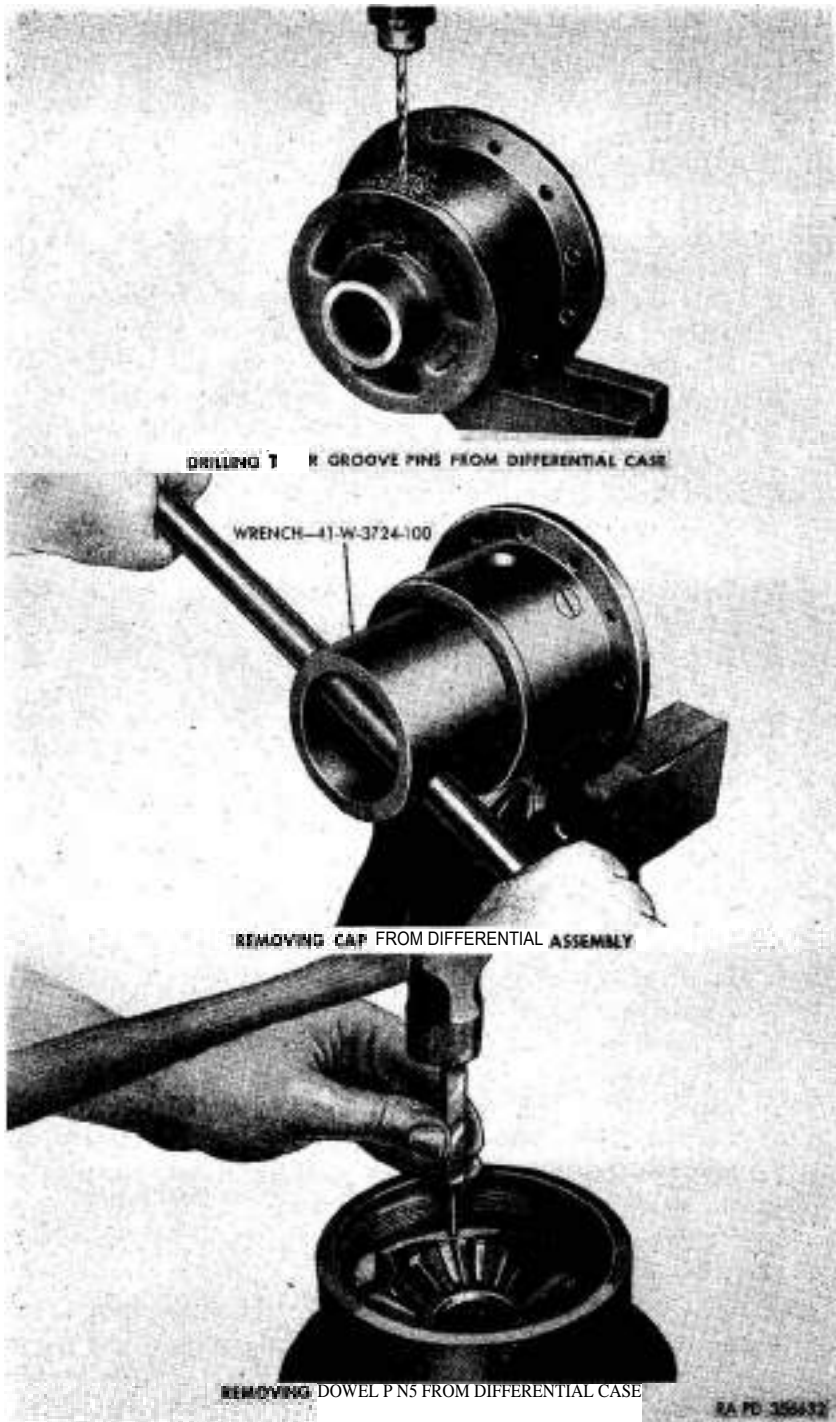
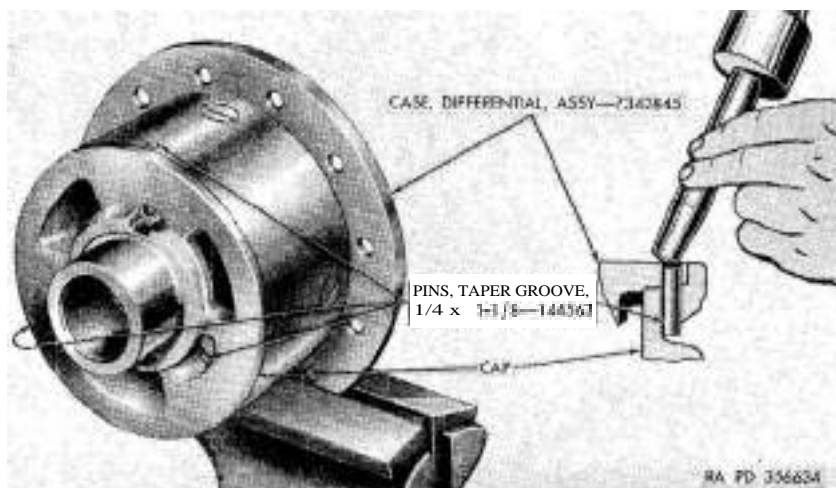

Figure 91. Disassembly of differential case.
Figure 92. Peening of pins in differential case.
- (1) Drive the pins below surface of differential case to facilitate center punching and drilling.
- (2) Accurately center punch each taper groove pin (fig. 91) and drill pins with a No. 1 (0.228-inch) drill. Remove shell of pins from case with a punch.
- (3) Heat differential case immediately below cap with an acetylene torch flame, moving the flame around the case until the metal becomes just hot enough to cause solder to flow as it is rubbed over the heated surface of the case. This expands the case, permitting removal of the cap without damage to the differential case or cap.
- (4) When case is properly heated, loosen cap with blunt drift and hammer and quickly remove cap with wrench 41—W-3724-100 (*fig. 91*) . Immerse all parts in oil to cool for subsequent handling.
- (1) Remove differential case from vise and place it over the open jaws of vise, cap end up.
- (2) Remove differential gear (AA) and differential gear thrust washer (BB).
- (3) Drive dowel pins (SS) from differential case with a 3/16-inch drift punch and hammer (*fig. 91*).
- (4) Drive long differential pinion shaft (TT) , at plain end, from differential case with a brass drift and hammer. Remove the two differential pinions (Z and GG) and differential pinion thrust washers (Y and FF) from case.
- (5) Drive one of the short differential pinion shafts (MM) into the case and through the differential pinion shaft block (HD) until differential pinion (~~GG~~) and differential pinion thrust washer (FF) can be removed. Continue to drive the short shaft through the block, forcing the opposite differential pinion short shaft (VV) from case. Remove the other differential pinion (Z), other differential pinion thrust washer (Y), block, and shaft. Remove other short shaft from case.
- (6) Remove differential gear (X) and differential gear thrust washer (W) from case.
- (5) Heat the threaded end of the differential case (**UU**) with an acetylene torch flame (par. 95e (3)).
- (6) Screw cap in differential case with wrench 41—W-3724-100 (*fig. 91*) and finish tightening cap with blunt drift and hammer.
- (7) Drill three holes, evenly spaced, through the differential case, near the cap flange and into the closed or heavy sections of the cap with a "C" (0.242-inch) drill (*fig. 91*). Drive in three new $1/4 \times 11/8$ taper groove pins (LL and WW) $1/16$ inch below surface of case. Peen metal of case over $1/4 \times 11/8$ taper groove pins (*fig. 92*).